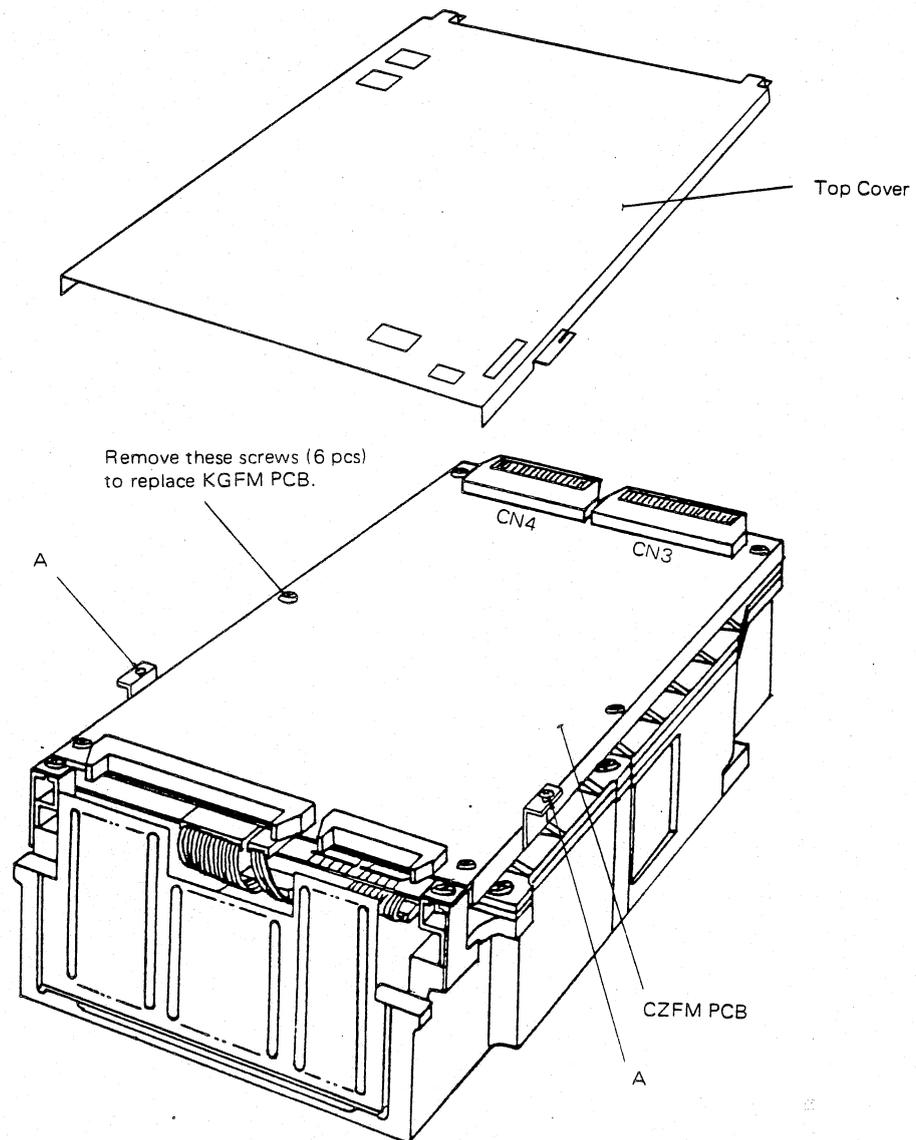

Figure 6-5-2 KGFM PCB Assembly Replacement
Refer to Figure 6-5-2.
(1) Removal
- (A) Loosen screws "A" and remove the top cover.
- (B) Disconnect wiring (CN3 and CN4) from the KGFM PCB assembly.
- (C) Remove the six screws indicates in Figure 6-5-2.
- (D) Remove the KGFM PCB assembly by lifting it.
(2) Installation
- (A) Fasten the KGFM PCB Assembly to the side frame, six screws.
- (B) Fasten connectors (CN3 and CN4).
- (C) Install the top cover and tighten screws "A".